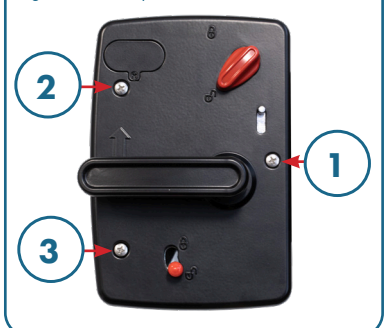

Fig. 8
4. Hand tighten the 3 screws to secure the lock housings. Do not overtighten screws. Use a #2 Phillips screwdriver to tighten screws to 16 inch-pounds in the following order: (**Fig. 8**)